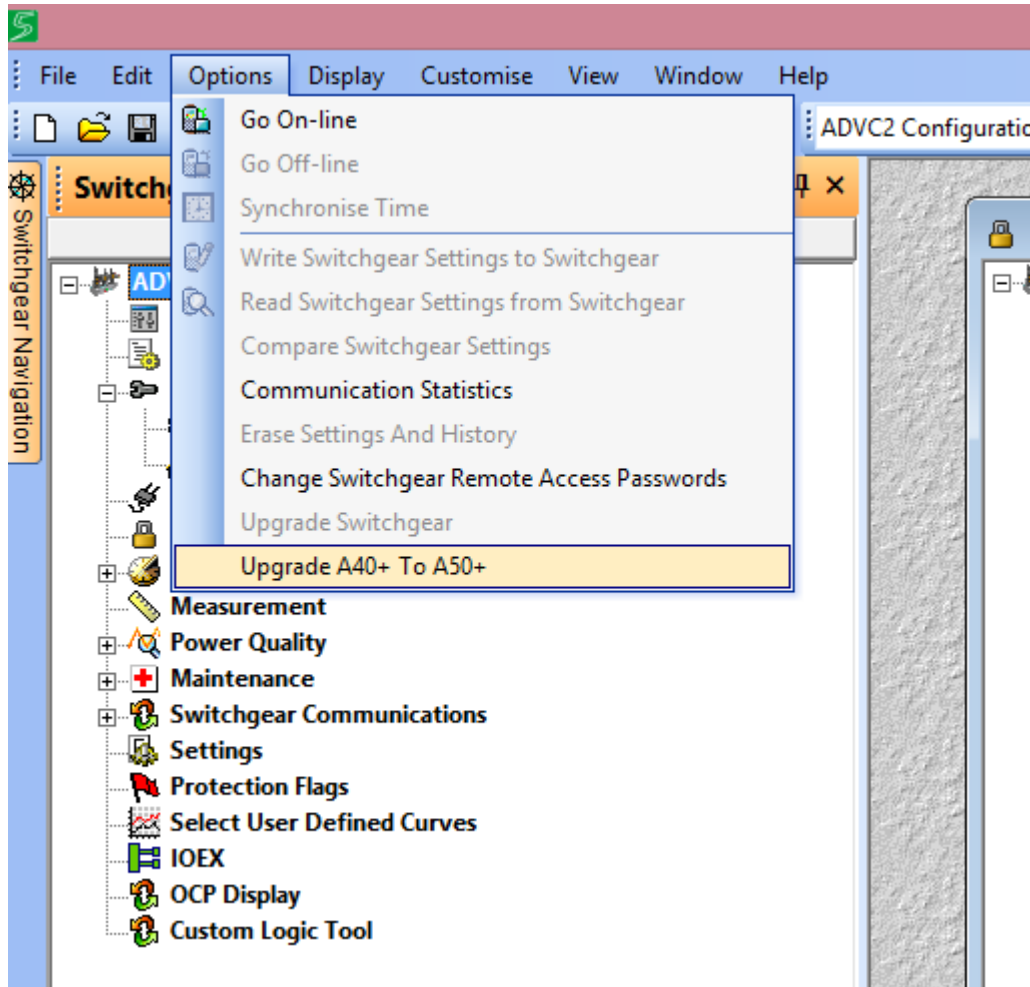

Figure 4: Upgrade to version 50
2. Once this is selected, navigate through the Options menu in WSOS, and select 'Upgrade A40+ To A50+' in the resulting drop down menu, as shown in Figure 4.